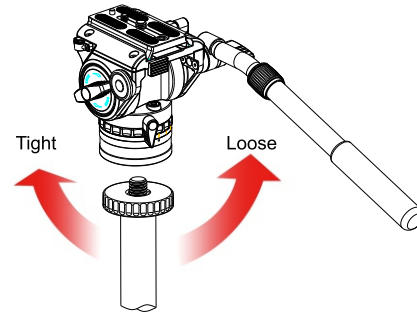

Figure 2
- ① If the screw on your tripod is UNC1/4", then you need another additional UNC3/8" screw.
- ② As shown in Figure 2, align the 3/8" mounting hole at the bottom of the Video Head with the 3/8" screw on the tripod, and rotate the Video Head in a clockwise direction until it is locked tightly.
As shown in Figure 2, tighten the Horizontal Panning Lock Knob, to lock the head and prevent it from turning, then turn the whole head in a counter-clockwise direction, until the head is removed from the tripod or monopod.